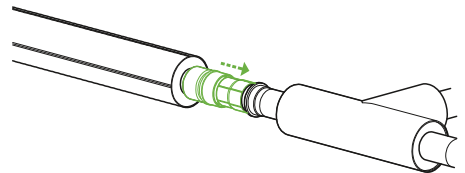

Fig. B11.1.5
7. First slide the polymer sleeve toward the pre-insulated Branch until it is snug with the inner coupler, then slide the outer sleeve in the same direction to place it over the polymer sleeve (Fig. B11.1.5).